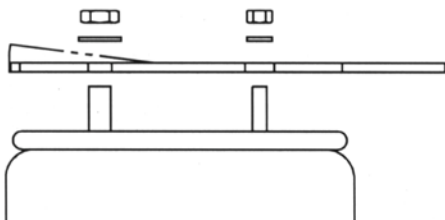

Figure 4 - Air Spring Upper Mount
2. Remove the nuts and washers from the upper air spring mount studs. See Figure 4.